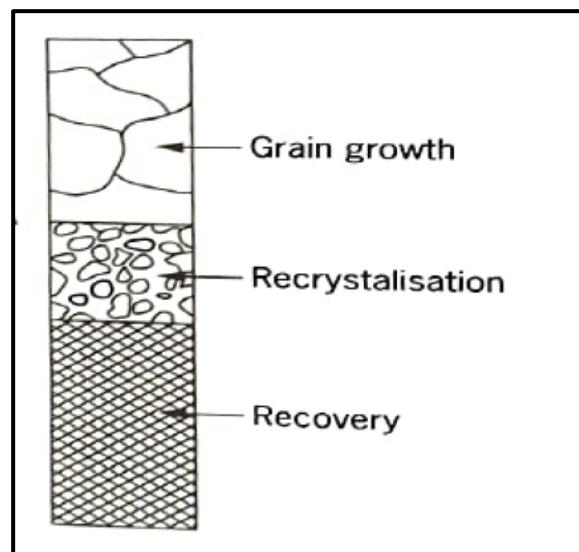

FIGURE 1.6
- 1.6 FIGURE 1.6 below shows one of the heat treatment processes. Which heat-treatment process is represented by FIGURE 1.6?